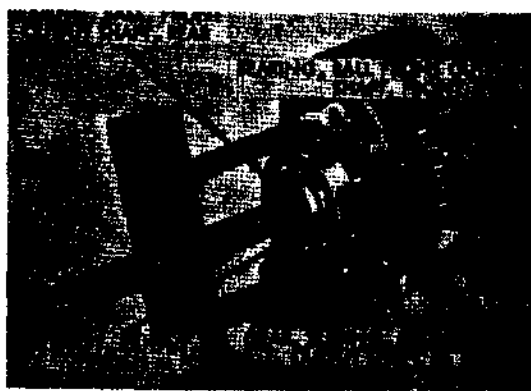

Figure 291. Removing front shaft rear ball bearing
- (b) Tap front output shaft with a soft hammer, with front output-shaft ball bearing towards rear of case far enough to permit removal of front output-shaft rear ball bearing (fig. 291). Use a suitable puller to remove ball bearing from shaft. Slide shaft and front ball bearing to front of case and remove through front bearing bore in case. Remove front output-shaft sliding gear from case. Place front output-shaft and front output-shaft front-bearing assembly in press and press shaft from front ball bearing. Remove high-speed gear snap ring (P, fig. 295), high-speed gear thrust washer (Q, fig. 295), and high-speed gear from shaft.